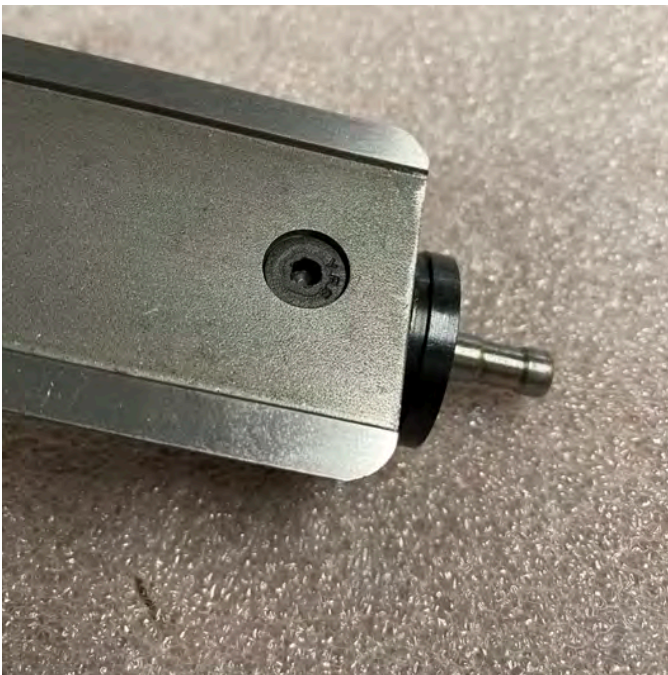

FIGURE 47—The 10-32 82° screw is now in place.
4. Thread in the 10-32 82° screw to lock the column thrust in place (see Figure 47).